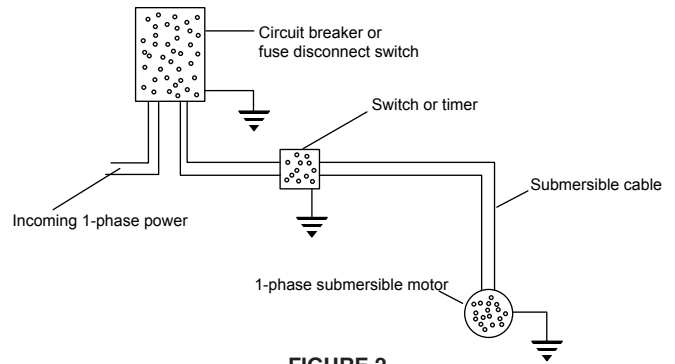

FIGURE 2
3. Make sure power supply is turned off and circuit breaker or disconnect switch is open. Make electrical connections appropriate to your motor as shown in Figure 2, 3 or 4.
7. A two-wire pump does not require a motor control box; all electrical components are built inside the motor. Figure 2 shows a typical wiring diagram for a two-wire installation.